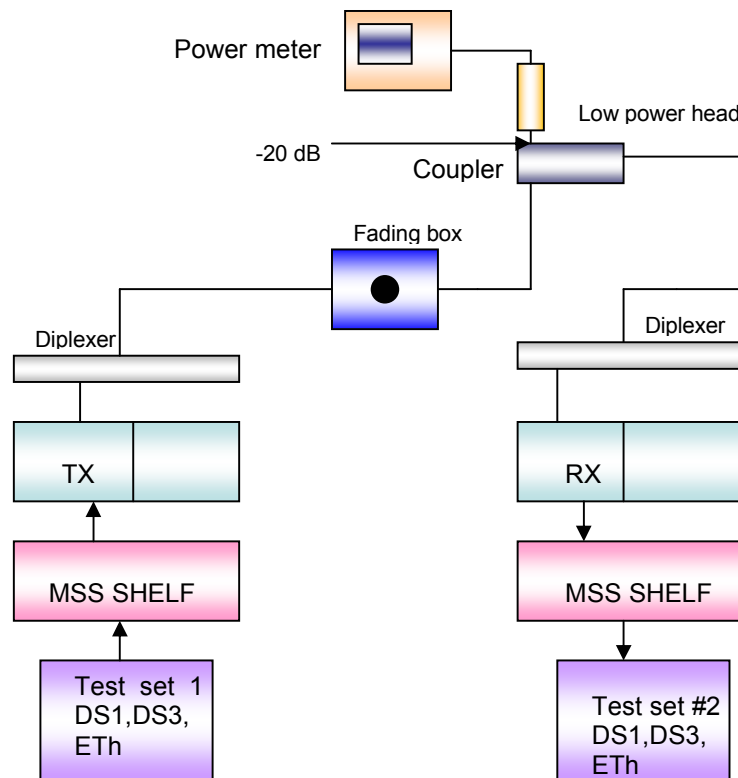

Figure 13 Receiver Overload
- Connect as shown in figure 13 (adaptive modulation ONLY)